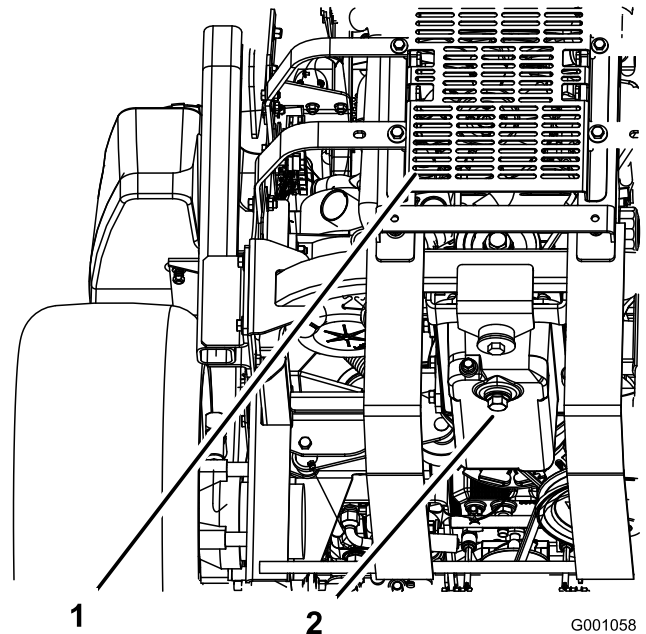

Figure 39
5. Place a pan below the oil drain. Remove the drain plug and let the oil drain completely (Figure 39).